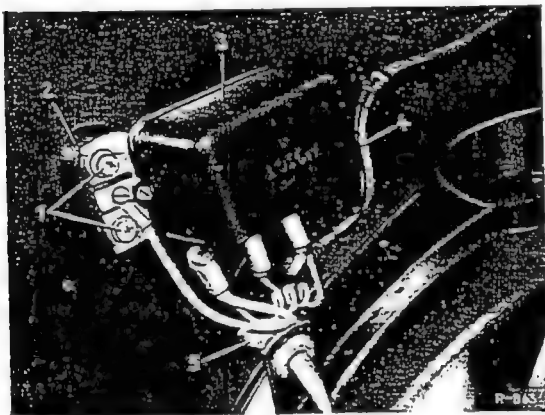

Fig. 15-14/1
2. Disconnect the electric cables from the regulator (3), which is on the right wheel-arch, and unscrew the regulator from the bracket (2) (Fig. 15-14/1).